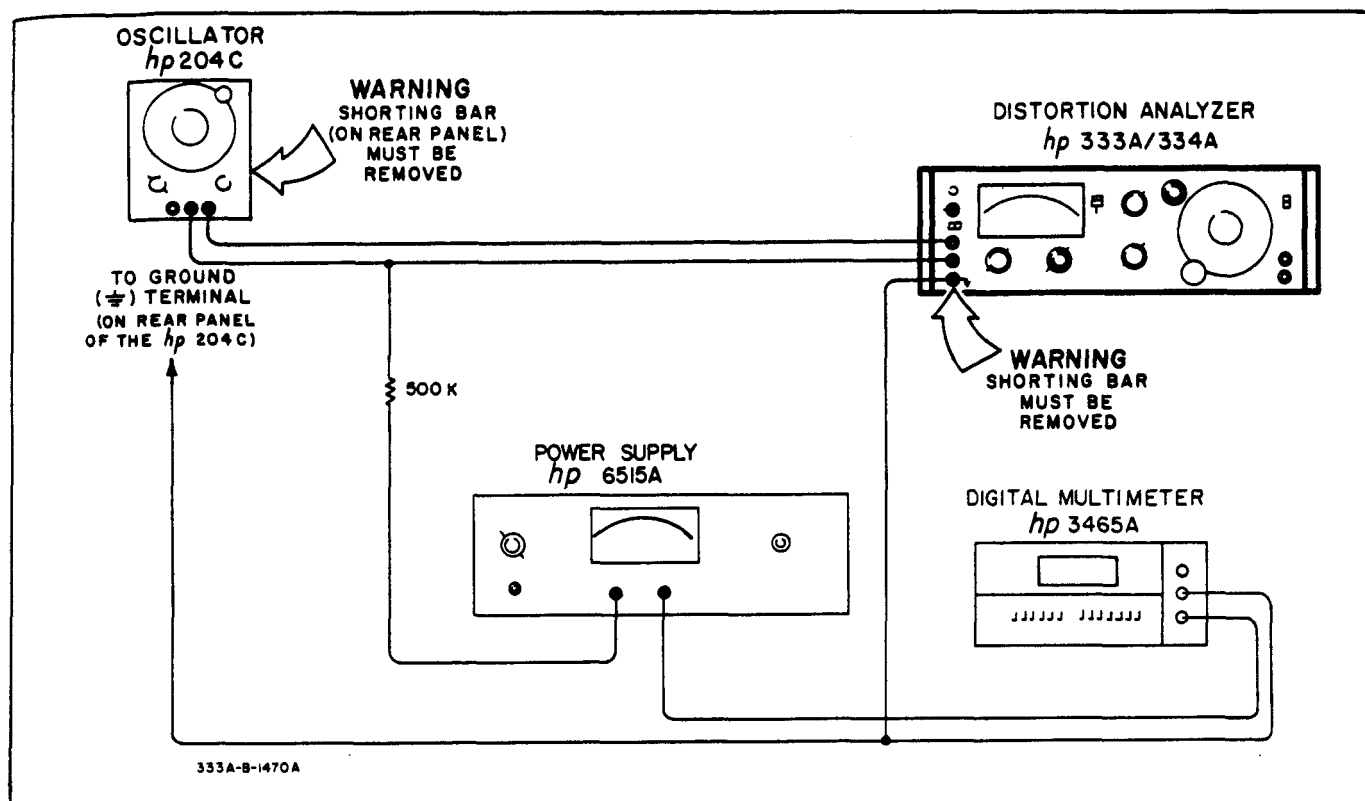

Figure 5-6. DC Isolation Check
- a. Set the 6515A to zero output, and connect test equipment to 333A/334A as shown in Figure 5-6.
- g. Disconnect test oscillator, and connect voltmeter calibrator to 333A/334A as shown in Figure 5-6.